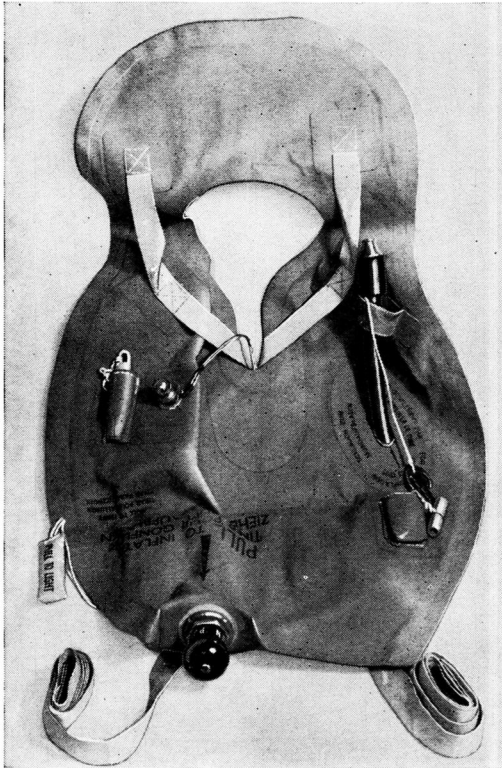
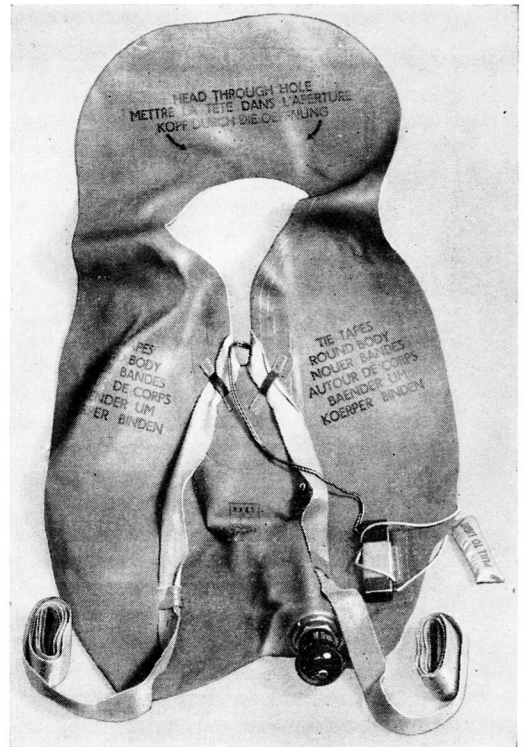

Fig. 2. Life jacket—front view
Fig. 3. Life jacket—rear view
2. The life jacket (*fig. 2 and 3*) is made from rubber fabric dyed traffic yellow. Unlike the aircrew life jackets it has a flotation chamber which covers the whole of the wearer's chest, instead of two lobes, which extend to form a headrest at the back of the head. A keyhole-shaped aperture enables the neck of the life jacket to be passed over the head, and tapes emerging from the bottom enable the lower edge to be secured to the wearer's body at waist level.
(*fig. 2*). Topping up is accomplished through an oral inflation tube located on the left-hand side of the jacket at chest level (*fig. 2*). The tube may be used for inflating the life jacket by mouth if the inflation mechanism fails.
4. On the right-hand side just below the shoulder is the pocket for the whistle and lanyard and the mounting for a lamp (*fig. 2*). A cable running from the lamp leads to a battery housed in a pocket on the right rear or body side of the jacket (*fig. 3*). The battery provides the power to light the lamp as soon as it comes into contact with water. The tab attached to the stud which plugs the inlet to the battery must be pulled to remove the plug as soon as possible after entering the water. The capacity of the battery is 20 hr.